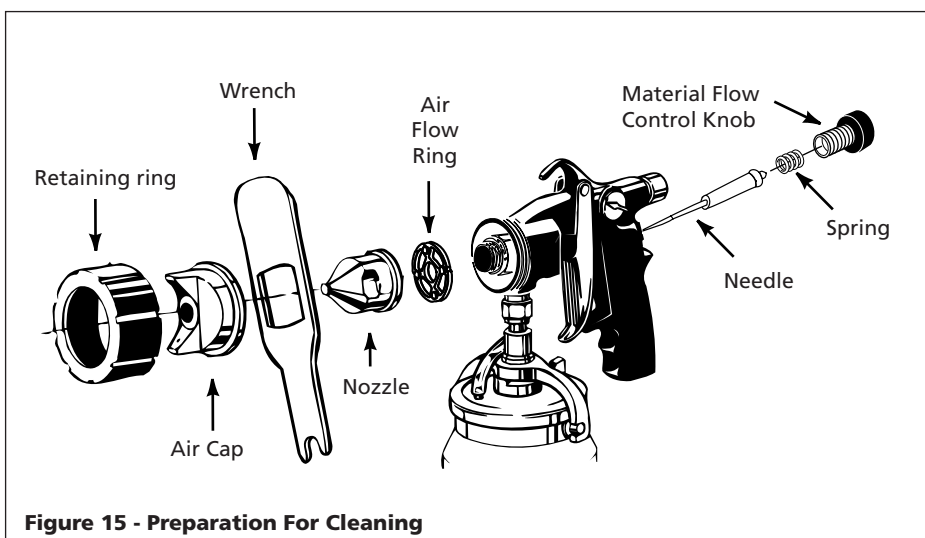

Figure 15 - Preparation For Cleaning
- Using the supplied wrench, unscrew and remove the retainer ring, nozzle, and airflow ring (See Figure 15).